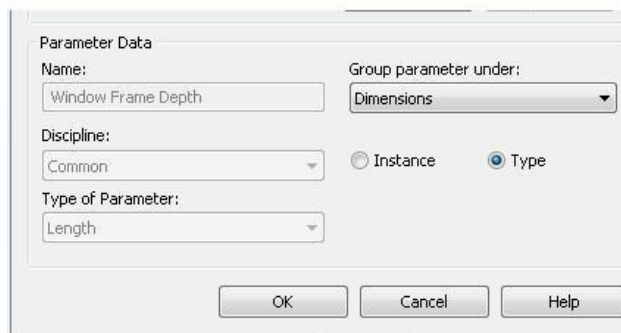

Figure 33. Finishing the Window Frame Depth parameter.
15. Make sure your Parameter Properties dialog looks like Figure 33 and click OK to return to the Family Editor.